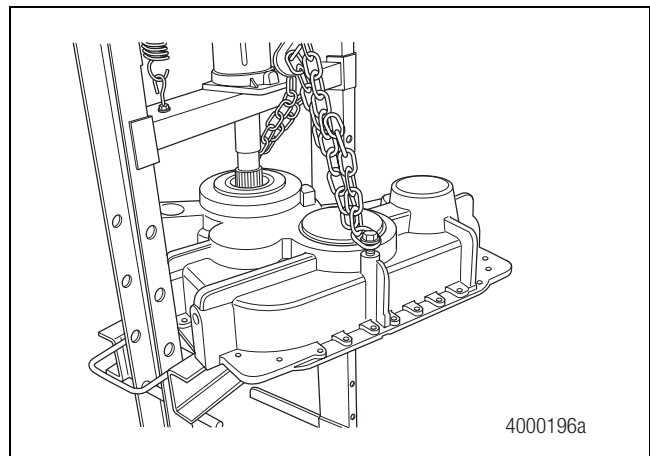

Figure 4.9
11. Set the rear cover with the rear output shaft as an assembly into a suitable press. Figure 4.9.
12. Press the rear output shaft assembly out of the rear cover. Figure 4.9.